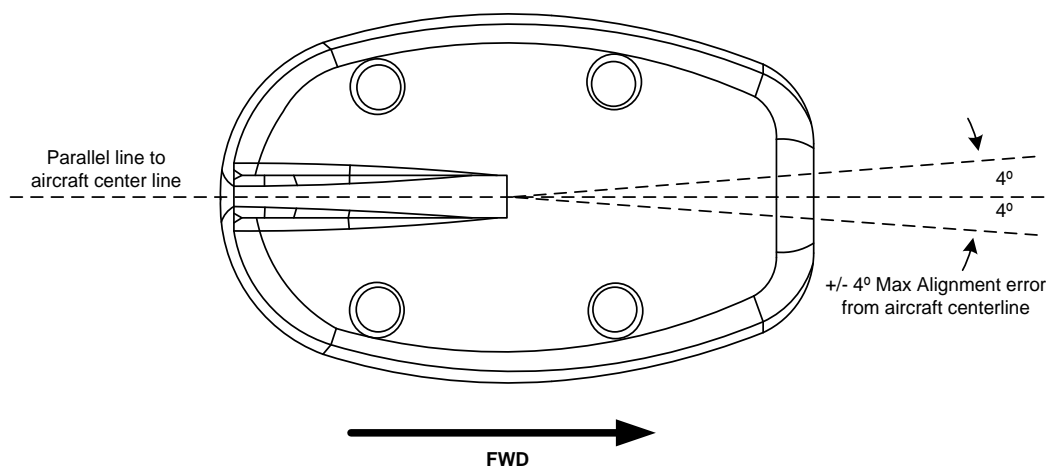

Figure 6-14: RSM Top View longitudinal Alignment
- 8) Using the doubler as a template match drill holes in aircraft fuselage at location determined from Section 6.9.4. Doubler must be aligned to the longitudinal axis of the aircraft to within $\pm 4^\circ$ (see Figure 6-14).